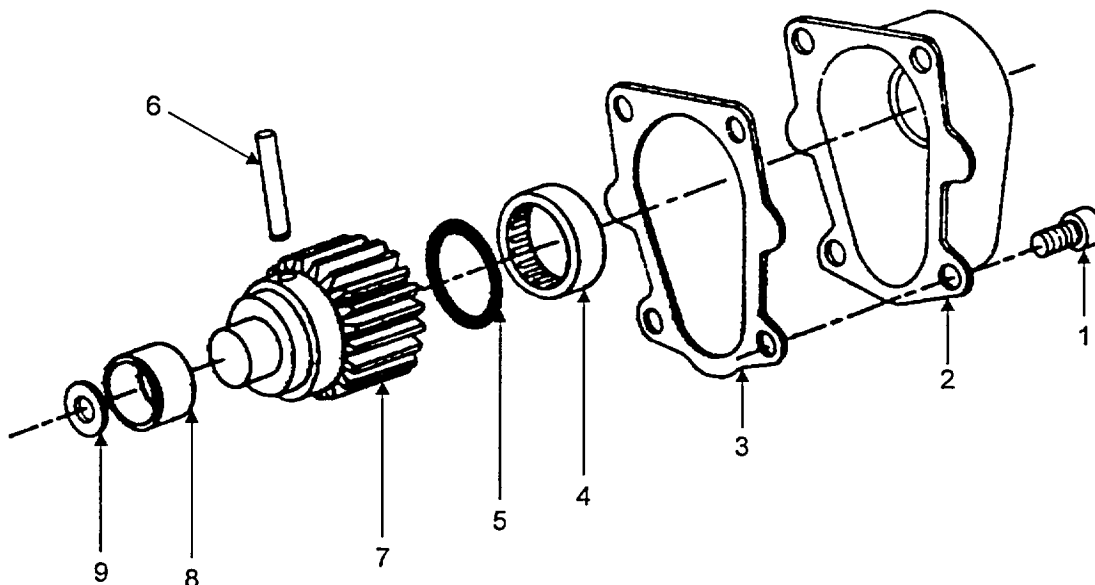

FIGURE 5-13. HAND CRANK ASSEMBLY GEARS
- a. Remove four socket head cap screws (Figure 5-13, Item 1) and remove housing (2).
- b. Remove and discard gasket (3)
- c. Remove needle bearing (4), oil seal (5), gear wheel (7) and locking pin (6) as an assembly.
- d. Remove needle bearing (4), oil seal (5), and locking pin (6) from gear wheel (7).
- e. Remove bushing (8) and disk (9).
- a. Slide pinion (Figure 5-13, Item 12) onto camshaft. Install lock washer (11) and hexagon nut (10) and tighten securely.
- b. Install disc (9) into timing cover housing with graphite side of disc (9) facing outward.
- c. Lubricate dry bushing (8) in timing cover housing with MIL-G-10925 grease.
- d. Install gear wheel (7) into dry bushing (8) and secure gear wheel (7) with locking pin (6)
- e. Install oil seal (5) and needle bearing (4) onto gear wheel (7).
- f. Fill housing (2) with MIL-GL-21164 grease. Mount new gasket (3) and housing (2) onto timing cover with four socket head cap screws (1)